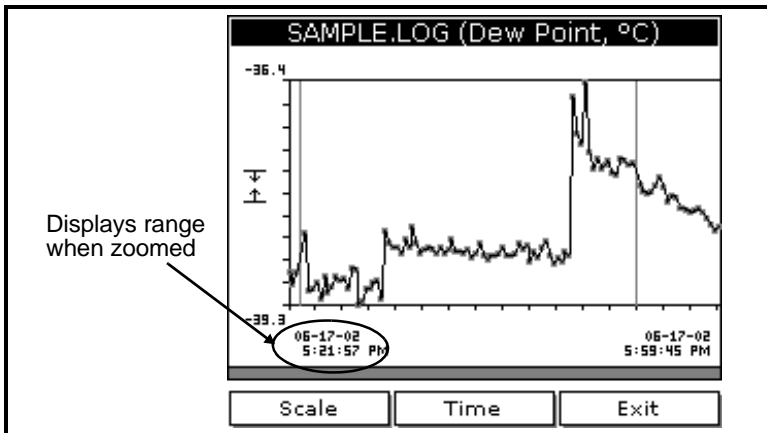

Figure 39: Log Graph Display Window
2. Press [F3], View. A screen similar to Figure 39 appears.
- To zoom in and out by 200%, press [▼] to zoom in and [▲] to zoom out. when zoomed, use the [◀] and [▶] keys to scroll through the graph. The screen displays the range when zoomed. See Figure 39.